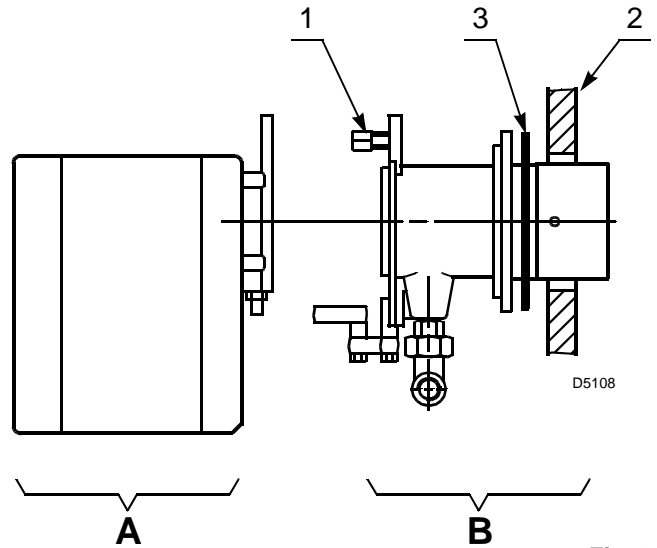

Fig. 9
- body by removing nut 1) and removing the group A)(Fig. 9). Fix the group B)(Fig. 9) to the boiler plate 2), inserting the supplied insulating gasket 3).